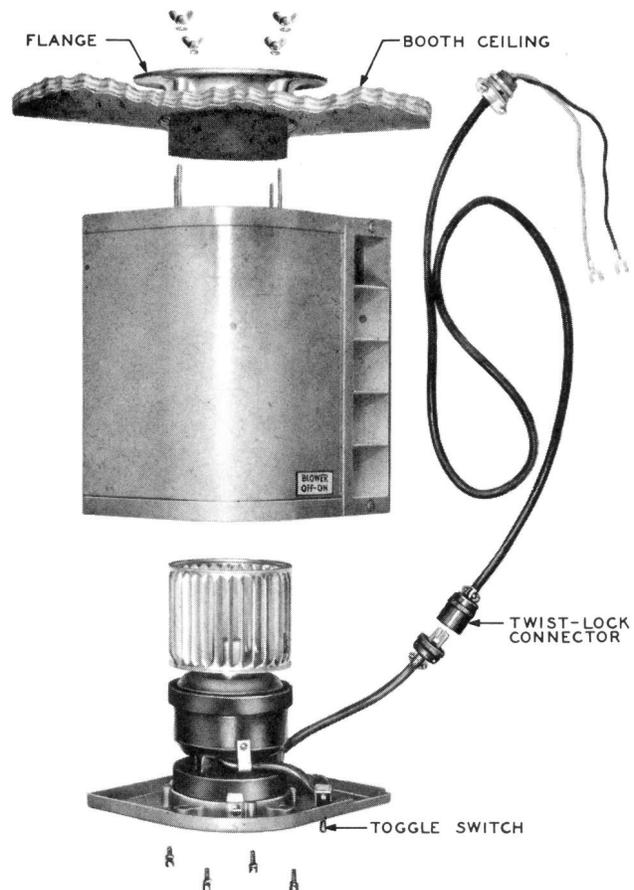

Fig. 14 — KS-14125 Blower
9.01 The KS-14125 blower is shown in Fig. 14.